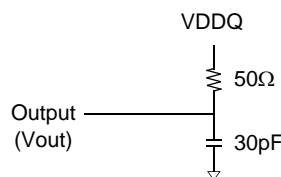

Figure 1 : Timing Reference Load
3. Figure 1 represents the timing reference load used in defining the relevant timing parameters of the part. It is not intended to be either a precise representation of the typical system environment nor a depiction of the actual load presented by a production tester. System designers will use IBIS or other simulation tools to correlate the timing reference load to a system environment. Manufacturers will correlate to their production test conditions (generally a coaxial transmission line terminated at the tester electronics).